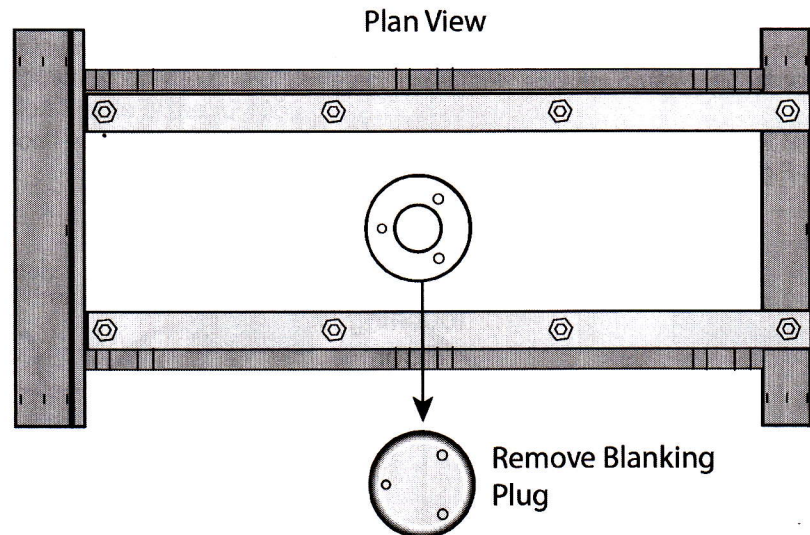

Figure 10 Remove the Blanking Plug from the Bottom of the Working Section
3. Remove the blanking plug from the bottom of the working section (see Figure 10).